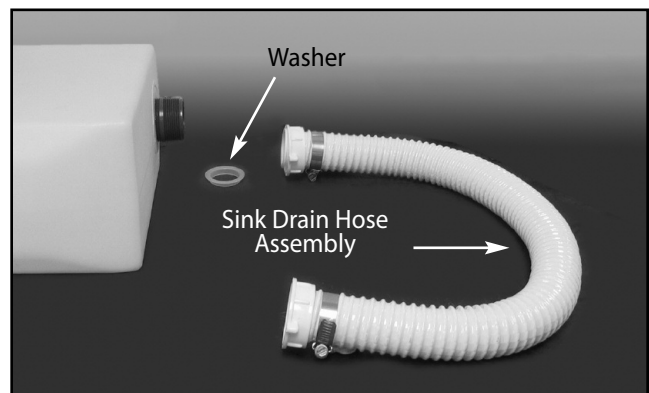

Fig. 32a
3. Attach sink drain hose assembly to the tank as shown in Fig. 32a, 32b and 32c (include one tailpiece washer).